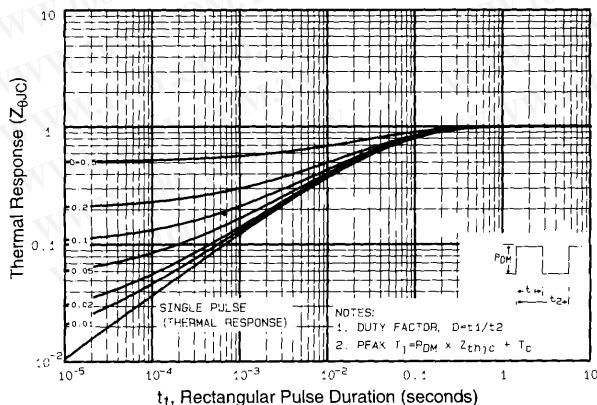

Fig 11. Maximum Effective Transient Thermal Impedance, Junction-to-Case
① Repetitive rating; pulse width limited by max. junction temperature (See Figure 11)
③ $I_{SD}\leq 17\text{A}$, $dI/dt\leq 150\text{A}/\mu\text{s}$, $V_{DD}\leq V_{(\text{BR})\text{DSS}}$, $T_J\leq 150^\circ\text{C}$ ② $V_{DD}=50\text{V}$, starting $T_J=25^\circ\text{C}$, $L=3.0\text{mH}$